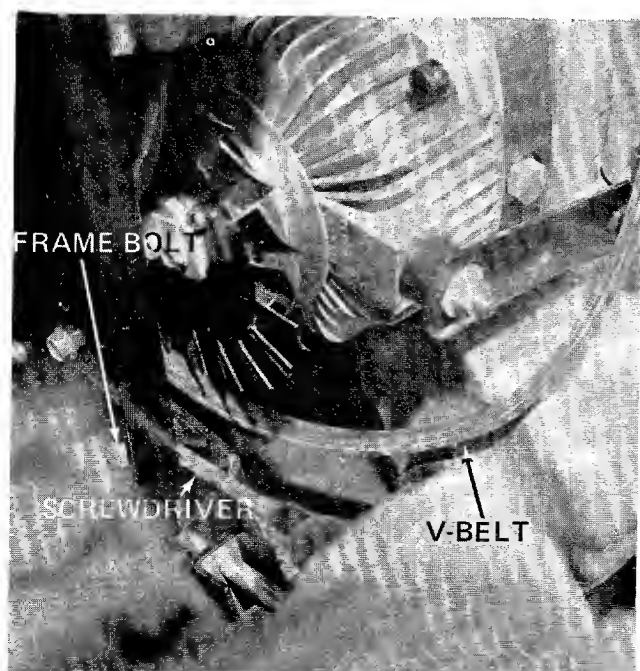

FIGURE 24.
7. Loosen the frame bolt holding the rear axle bracket to the frame. See figure 24.